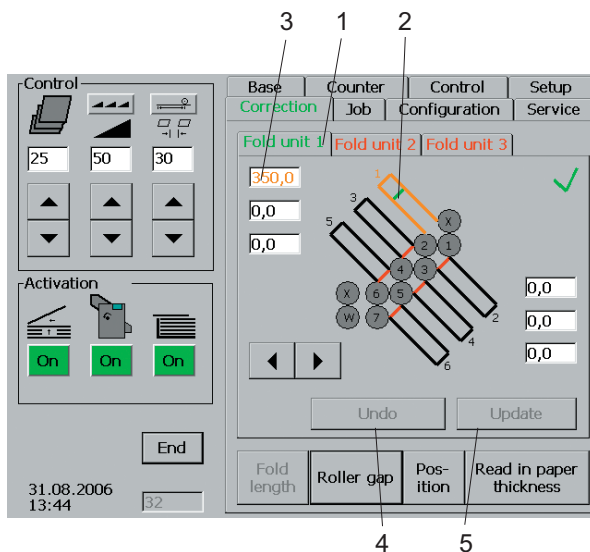

Fig. 32 Correction of fold length
After the adjustment, the *Undo* (Fig. 32/4) and *Update* (Fig. 32/5) keys are no longer active. This is shown by the change of the front colour from black to grey.
1. Select the desired fold unit and touch the appropriate key (Fig. 32/1) (script colour changes).
2. Touch the symbol of the fold plate (Fig. 32/2) where the fold length has to be corrected (fold plate and matching input window turn orange).
3. Touch the input window (Fig. 32/3). A numerical keyboard pops up.
You can cancel incorrect entries by touching the *Undo* key (Fig. 32/4).
7. Touch the *Update* key (Fig. 32/5) when the corrections are completed.